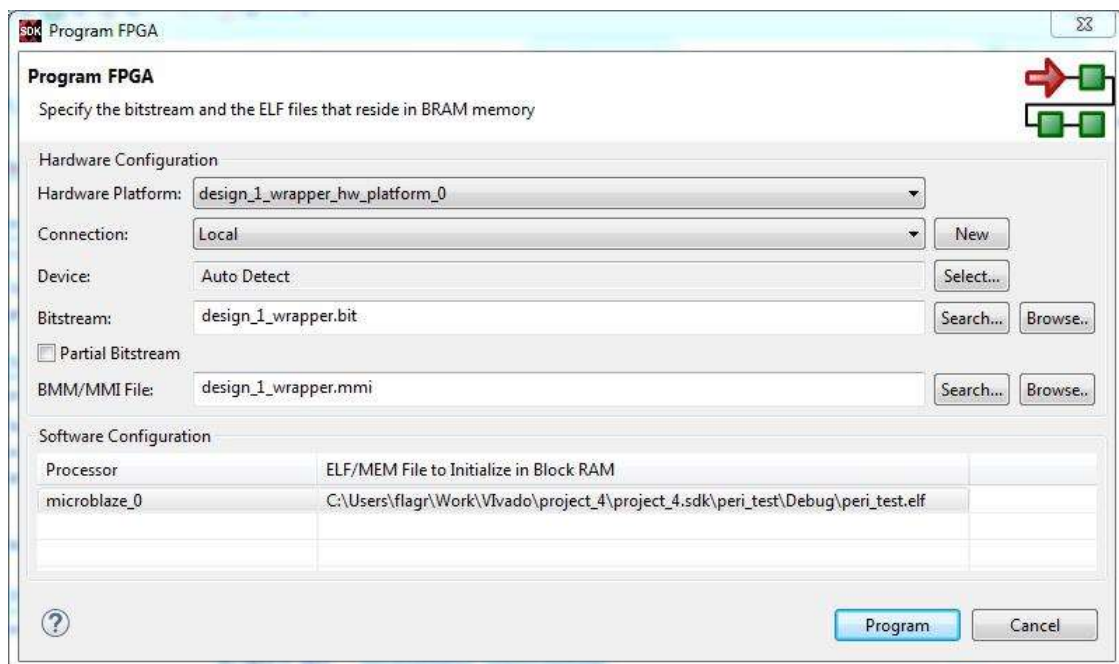

Figure 40: Project Explorer with the new peri test application
2. In the **Program FPGA** dialog box, make sure to change the bootloop (does nothing / used in debugging) in Software Configuration to point to the right executable, as shown in Figure 40. Click **Program**.